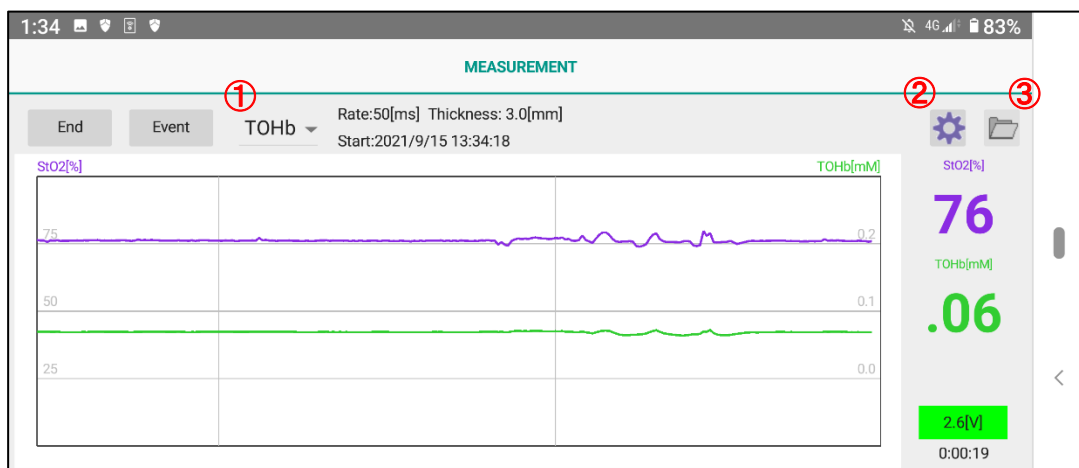

Figure 9. Screen during measurement in Real-time mode
Select from the upper right of the measurement screen (① in Figure 9) and set: "None", "3 points", "5 points", "7 points", "9 points", or "11 points".
Select "Accelerometer" or "Gyroscope" from the upper right corner of the measurement screen (① in Figure 9).
Select and display the value of each hemoglobin. (Figure 9, ②)
(When two units are used, "CH1" and "CH2" are displayed on the left side of ① in Figure 9.)
(When two units are used, "CH1" and "CH2" are displayed on the left side of ① in Figure 9. The unit is [%].
The measured data can be checked on the spot. Please select from ③ in Figure 9.